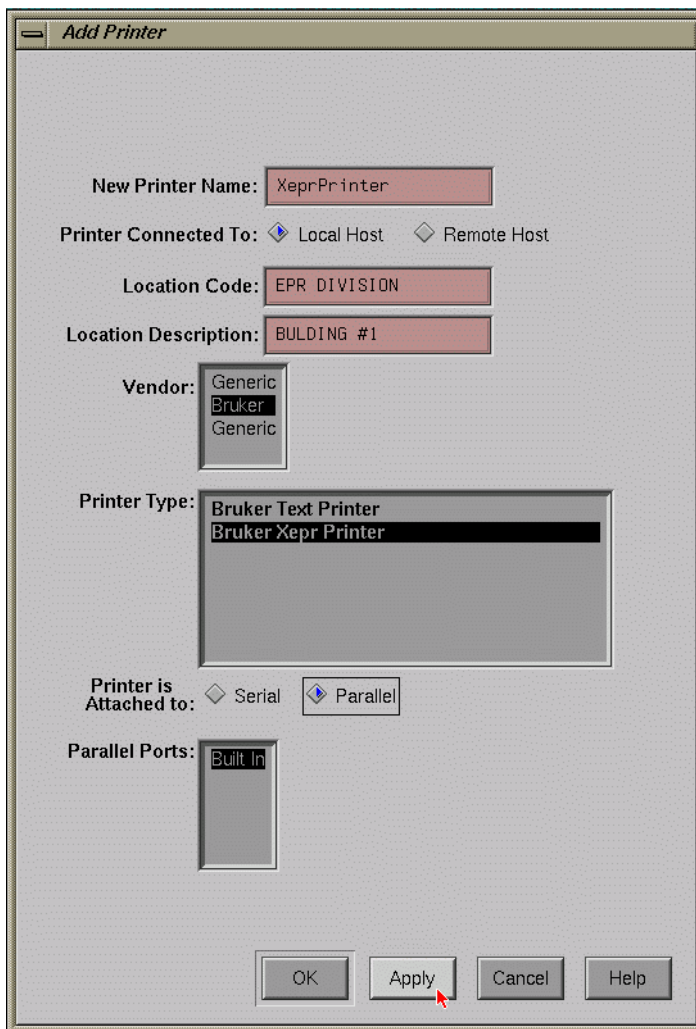

Figure 15-13 Adding a new printer.
3. **Add a new printer.** Click the Add button in the dialog box and a dialog box for installing a new printer appears. (See Figure 15-13.) Type XeprPrinter in the New Printer Name box. Select Local Host if the printer is connected directly to the UNIX workstation. You can enter some information about the location of this printer in case you want to share this printer with others. Choose Bruker as the Vendor and Bruker Xepr Printer as the Printer Type. If the printer is connected to the parallel port click Parallel and in the Parallel Ports box the words Built in will be highlighted. The printer that Bruker provides with the spectrometer is connected to the parallel